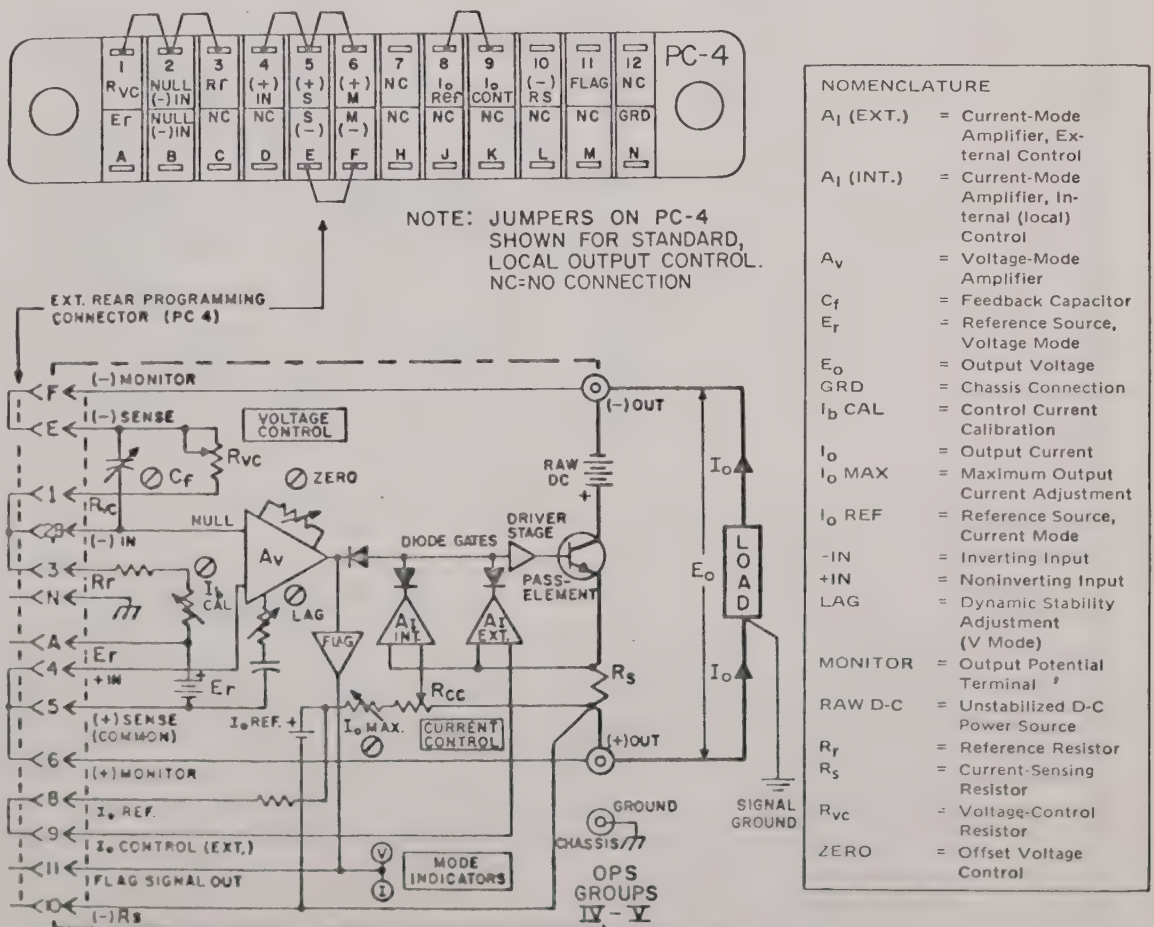

FIG. 3-1 OPS, SIMPLIFIED DIAGRAM.
- DIAGRAMS. Applications and setup diagrams in this section show the (simplified) equivalent diagram of the OPS GROUPS IV and V operational power supply circuit. The indicated terminations correspond with the actual pin numbers on the rear programming connector (PC-4), (refer to FIG. 3-1).
- b) **LOAD CONNECTION (I).** The basic interconnection between the OPS and the load are shown in FIG. 3-1. The load wire size for the 2-wire connection shown should be as large as practicable to keep the series resistance and inductance low. In addition, the load wire pair should be tightly twisted, to reduce possible "pick-up" from stray magnetic fields. This connection is useful only where the voltage drop in the load wires is of minor consequence, as for example, operation into a constant load or in a constant current operating mode.